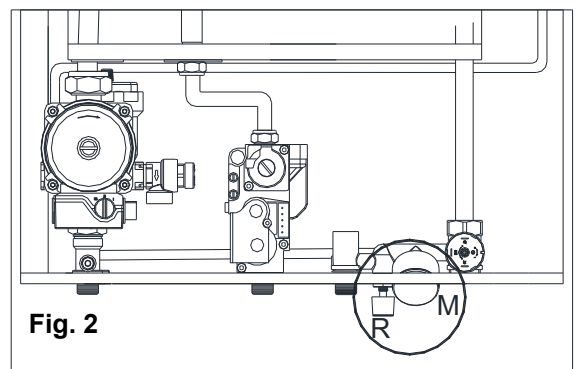

Fig. 2
- Open the filling tap **R** (fig. 2);
- Use the pressure gauge **M** (fig. 2) to check that the system pressure reaches 1 bar and that the code H2O does NOT appear on the control panel display (see 2.7 section 'Control Panel');
- turn the system drain tap RS (see fig. 2) and use a container to collect the water that runs out;